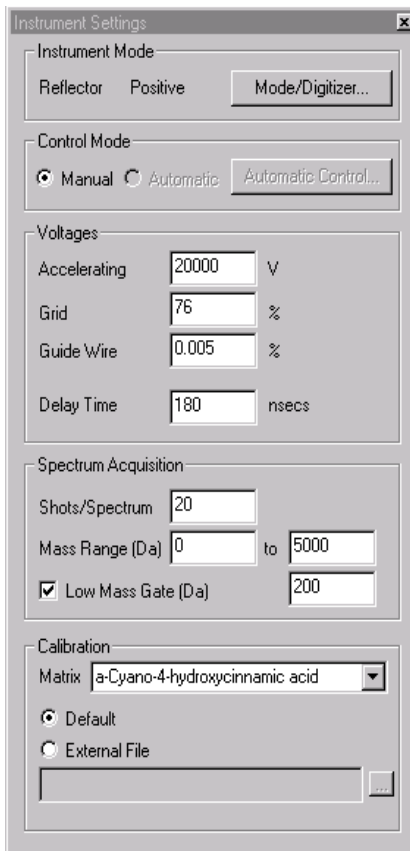

Figure 5-2 Instrument Settings Control Page
1. If the Instrument Settings control page (Figure 5-2) is not displayed, select **Instrument Settings** from the View menu.